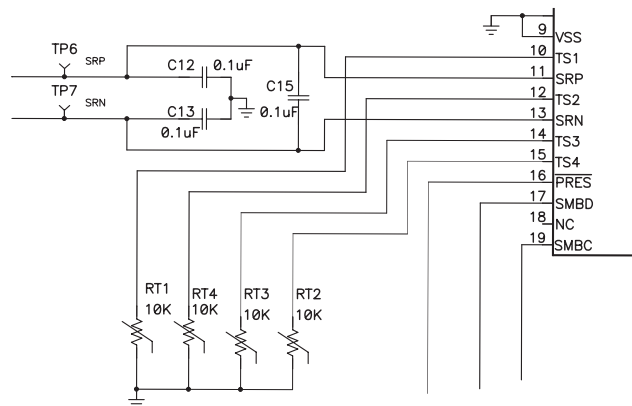

Figure 18. Thermistor Drive
For the bq3050 device, TS1, TS2, TS3, and TS4 provide thermistor drive-under program control (Figure 18). Each pin can be enabled with an integrated 18-k Ω (typical) linearization pullup resistor to support the use of a 10-k Ω at 25°C (103) NTC external thermistor such as a Mitsubishi BN35-3H103. The reference design includes four 10-k Ω thermistors: RT1, RT2, RT3, and RT4.